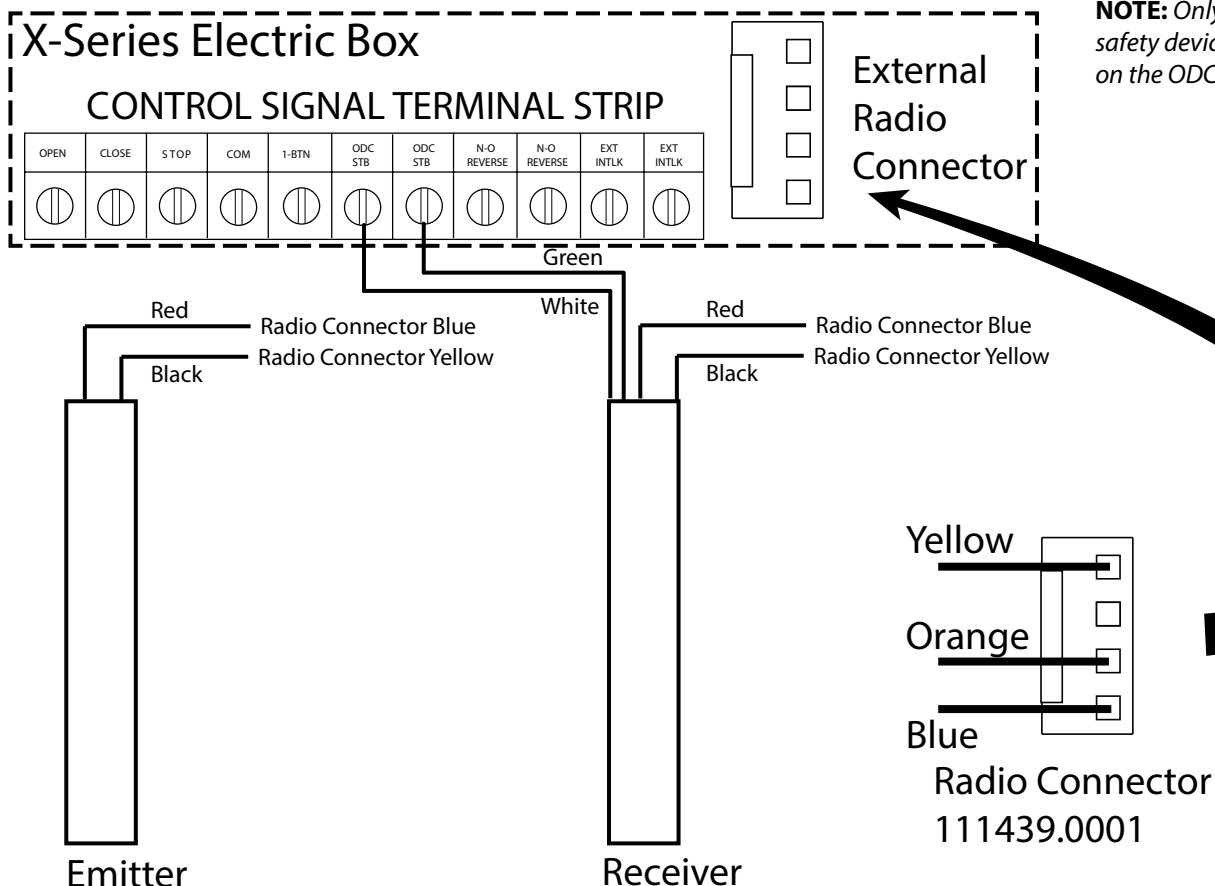

Fig. 1
5. Wire light curtain to ODC-STB terminals and Radio Connector in operator as shown in Fig 1.